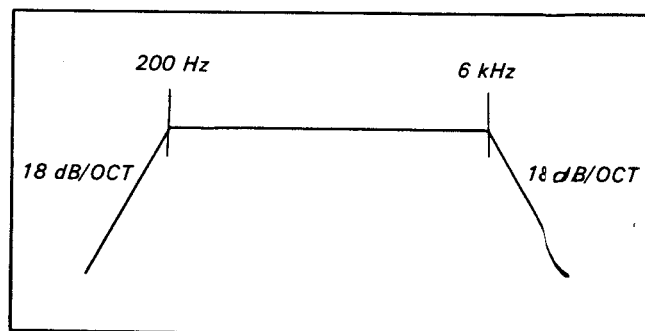

Fig. 5-36. Distortion ratio measuring filter
- 4) Be sure that the distortion ratio in both SP and LP modes is less than 0.5% (When the filter as shown in Fig 5-36 is used), and less than 1.0% (When filter is not used).